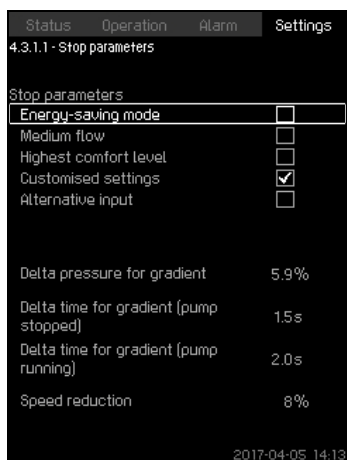

Fig. 76 Customised settings
- Select one of the stop parameters. If you select "Customised settings", you must set the parameters shown in fig. 76. See the examples below.